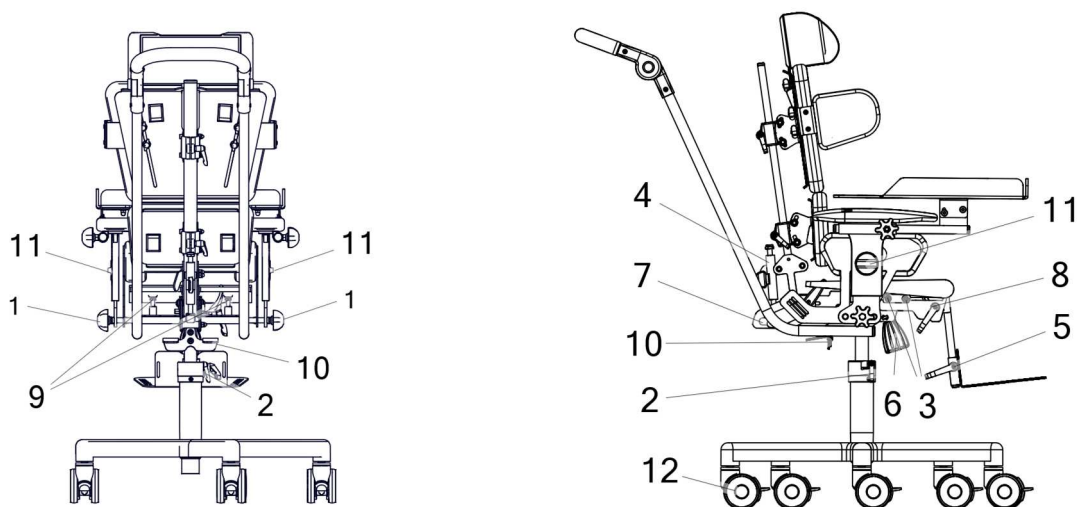

Fig. 5
Basic regulation elements shown on Fig. 5
To adjust the side hip supports turn knob (1) Fig. 5 right or left until the required dimensions are obtained. The adjustment elements are situated on the left and right, allowing for symmetrical and asymmetrical positioning of the user's pelvis.
Turn knob (11) Fig. 5 until the required height is set. The knobs are located on the left and right side. They operate independently from each other, making it possible to adjust the armrest height asymmetrically.
To unlock, loosen bolts (3) Fig. 5 located on each side. After unlocking the screws, set the depth by pushing or pulling the front part of the device. To lock, tighten bolts (3). If the adjustment range provided by the bolts (3) is not sufficient, additional adjustment may be obtained by loosening bolts (7) and pulling or pushing the backrest. After completing the adjustment procedure, make sure the bolts (7) are tightened.
In order to adjust seat angle, turn knob (6) Fig. 5 until the required angle of sitting position is obtained.
To increase the height of the seat in relation to the floor, first, loosen the knob (2) Fig. 5 and press the releasing mechanism lever (10) (towards the front of the device). The gas-operated spring automatically raises the seat. After adjustment, re-tighten the rotation lock.
In order to adjust buttock support height, turn screw (9) Fig. 5 until the required height is obtained.